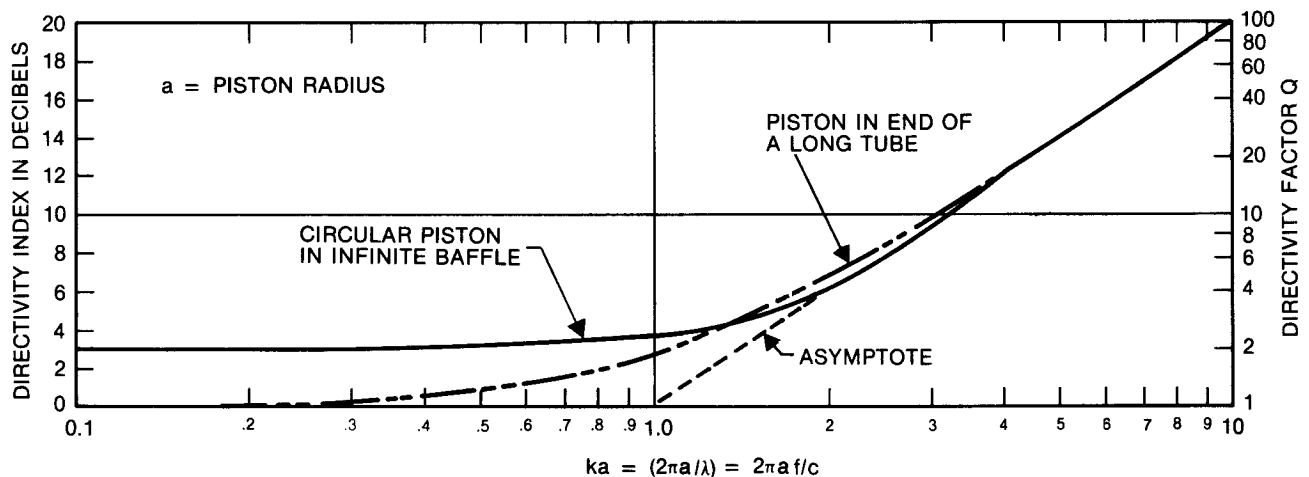

Figure 1. Directivity Index Response of Direct-Radiator Pistons in Various Baffle Configurations
We learn from articles by Hopkins and Stryker and from Baranek's text, "Acoustics," that the directivity index response of any direct radiator rises at 6 dB/octave once the wave length is several times smaller than the circumference. This is shown in Figure 1.
1. A loudspeaker will be omnidirectional starting at $ka = 1$ and the beamwidth will halve for each octave increase in frequency. Therefore, as in Figure 1, the response can be plotted on a log/log graph of -6 dB angle vs. ka or frequency with a 45° triangle.